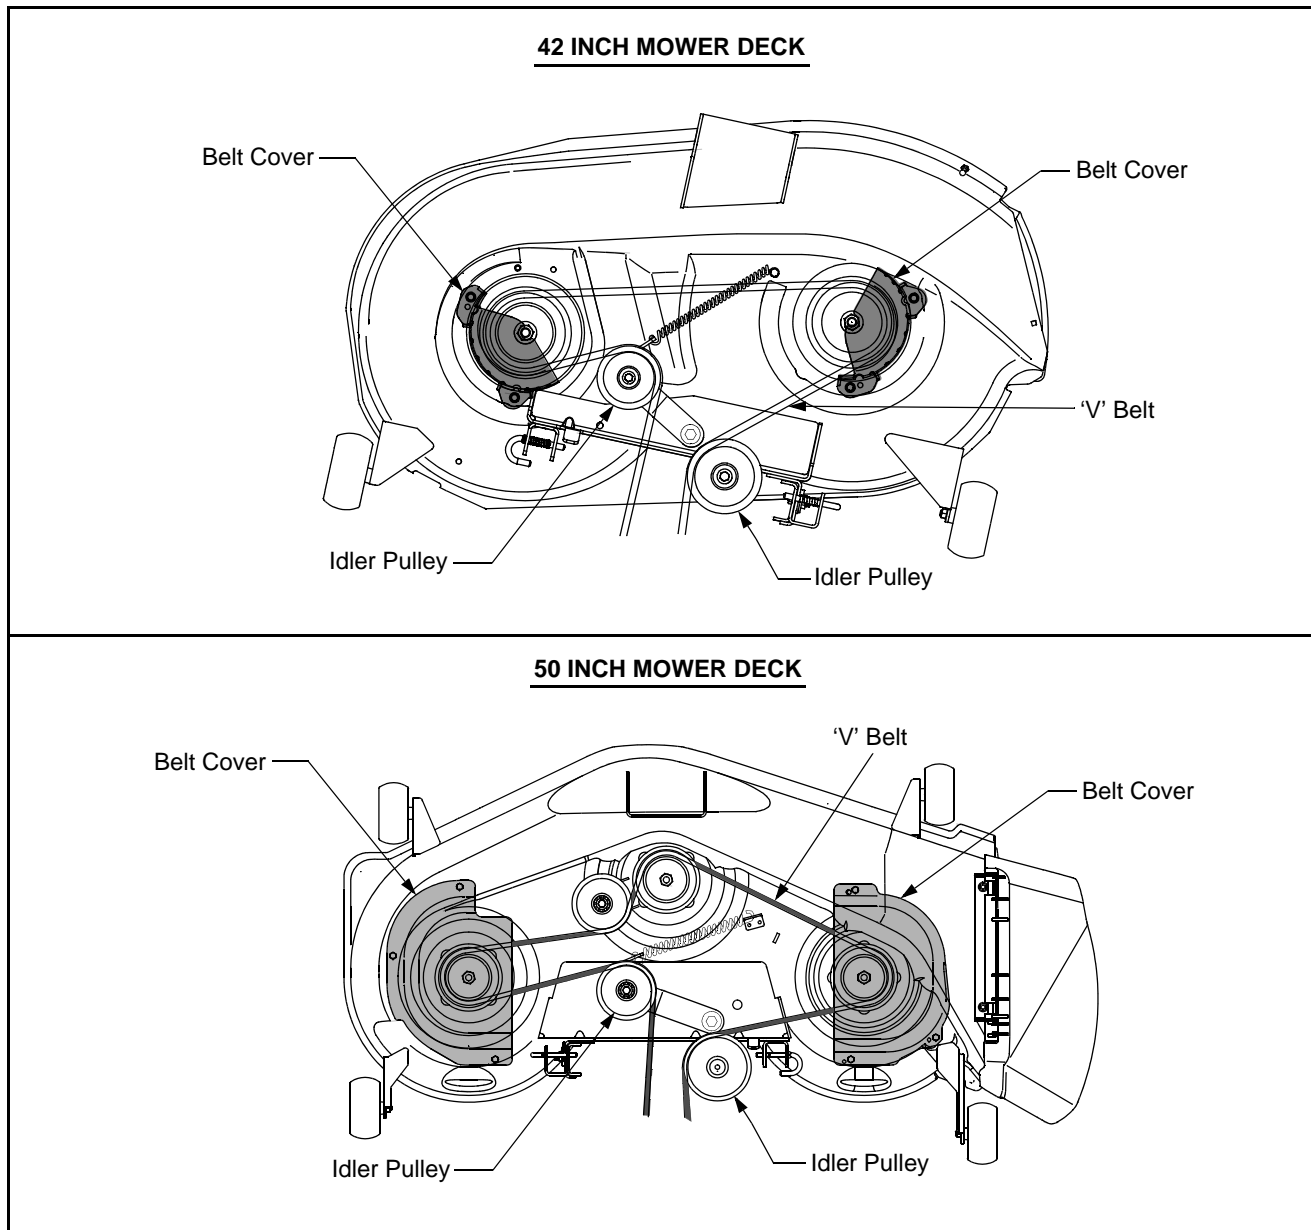

Figure 36
- Remove the hex tapping screws securing the belt covers to the deck and remove the belt from the spindle pulleys. Refer to Figure 36.
- Depending on which deck (42" or 50") you are working on, install the new belt around the spindle pulleys as shown in the applicable graphic of Figure 36. Reinstall the belt covers.